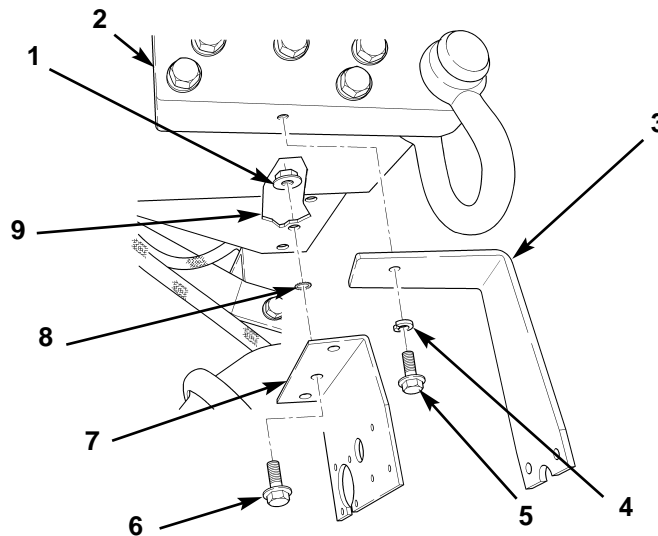

Figure 1. Removing Rear Exterior Lighting Brackets.
1. Remove screw (figure 1, item 5), lockwasher (figure 1, item 4), and left mounting bracket (figure 1, item 3) from rear shackle mounting bracket (figure 1, item 2). Discard lockwasher (figure 1, item 4).
2. Remove three nuts (figure 1, item 1), screws (figure 1, item 6), left mounting bracket (figure 1, item 7), and star washer (figure 1, item 8) from rear frame section (figure 1, item 9) and bracket (figure 1, item 7).
3. Repeat steps 1 and 2 for removal of right mounting brackets (figure 1, items 3 and 7).